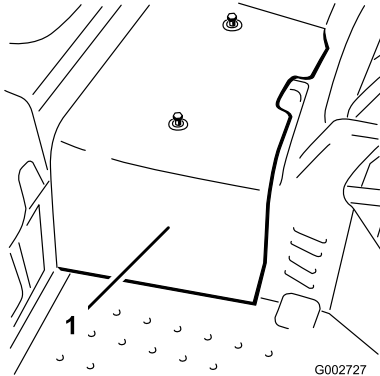

Figure 41
2. Loosen the 2 screws securing the center shroud to the machine and remove the shroud (Figure 41).